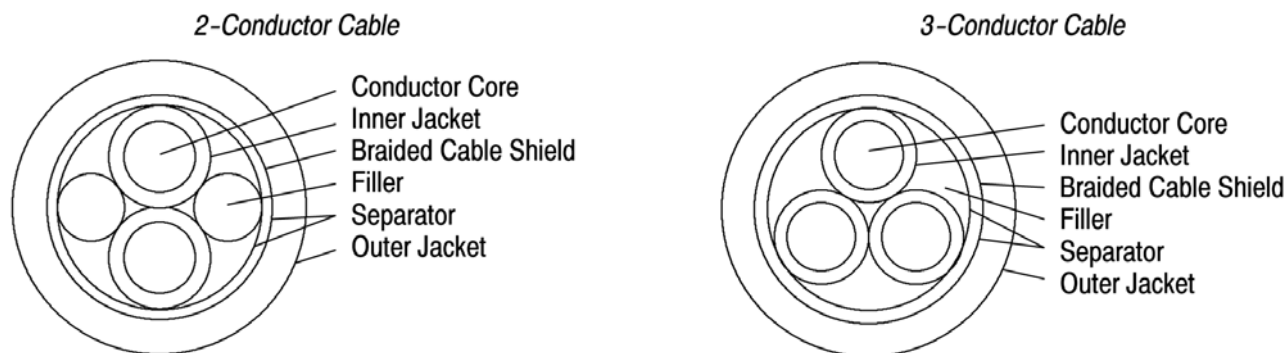

Figure 2 (Cont'd)
2.5. Cable and Subcomponent Specification (Figure 2)